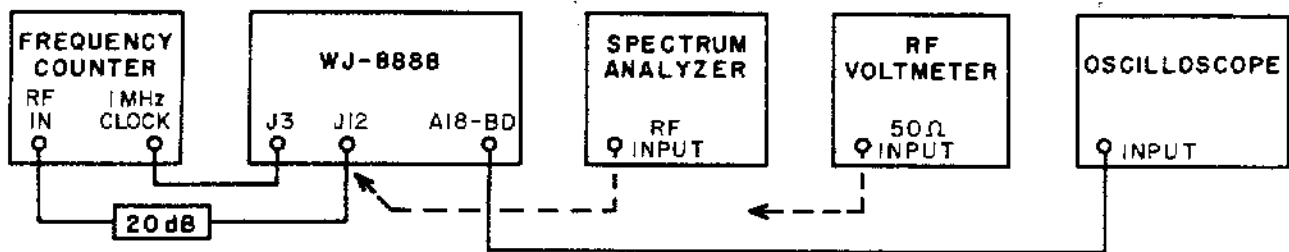

Figure 5-8. Test Setup, 1st LO Performance Test
- (1) Be sure the receiver is turned off.
- (2) Connect the frequency counter and oscilloscope as shown in Figure 5-8.
- (3) Turn the receiver on and place it in the LOCAL mode.
- (4) Tune the receiver to each of the frequencies listed in the Receiver columns and verify the corresponding VCO output frequency (± 1 Hz) in the VCO columns. Each time observe the oscilloscope for an unlock indication. This will appear as either a constant high state or as a pulsed condition, depending on the problem. Either the 1st LO or the 2nd LO becoming unlocked will give the unlock indi-